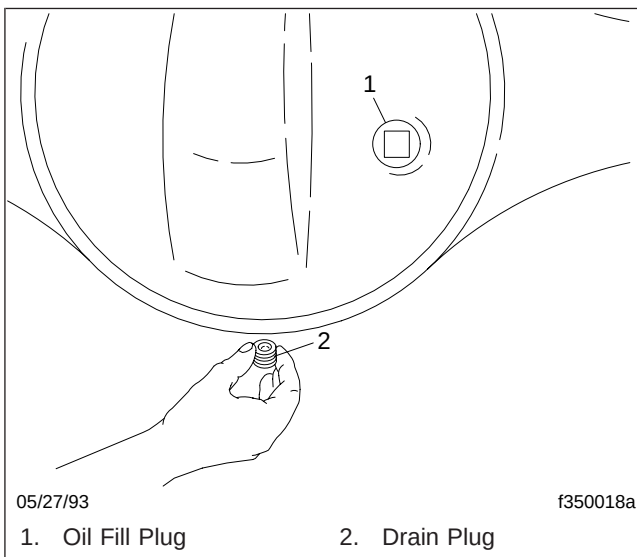

Fig. 5, Axle Housing Drain and Fill Plugs
2. Clean the fill plug and area surrounding it, then remove the plug from the oil fill hole (or stand-pipe if installed in the oil fill hole) located in the axle housing rear cover. See Fig. 5.
3. Remove the drain plug at the bottom of the axle housing (Fig. 5) and allow sufficient time for all old lubricant to run out.